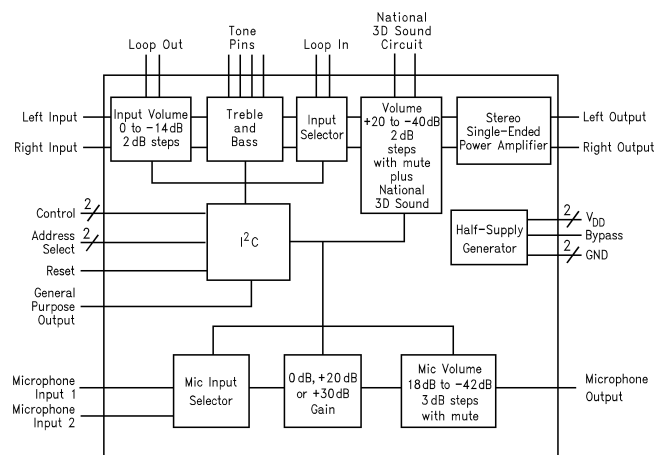

Figure 1. LM4832 Block Diagram
(1) All voltages are measured with respect to the ground pins, unless otherwise specified. All specifications are tested using the typical applications shown in Figure 1.
(2) Typical values are measured at $25^\circ C$ and represent the parametric norm.
(3) Limits are ensured AOQL (Average Outgoing Quality Level).
(4) Data sheet min and max specification limits by design, test, or statistical analysis.